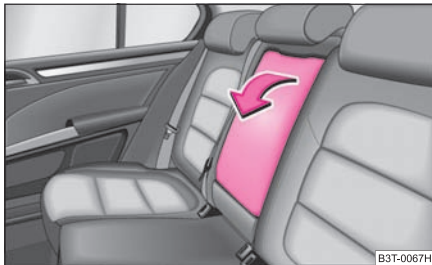

Fig. 70 Rear seats: Armrest
- You can fold down the armrest to enhance occupant comfort ⇒ fig. 70. ■